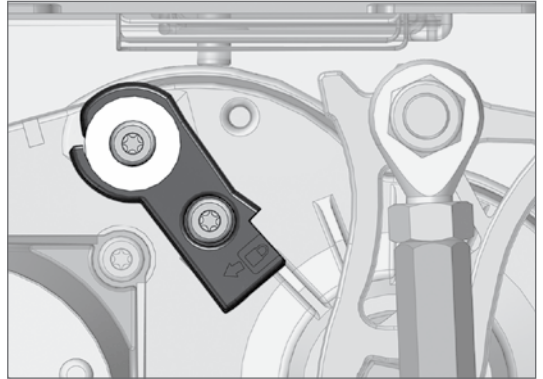

FIGURE 64. LOCK MODE POSITION (TOP)
- For a right-hand boom to be placed in Lock Mode in the lowered position, position the top stopper as shown in Figure 64 (similarly for the left-hand raised locked position)